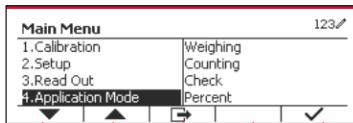

Figure 24
1. Long press the  button to enter Main Menu. (See Figure 24)
2. Select Application Mode by pressing the softkey corresponding to the ▼ icon. (See Figure 24)